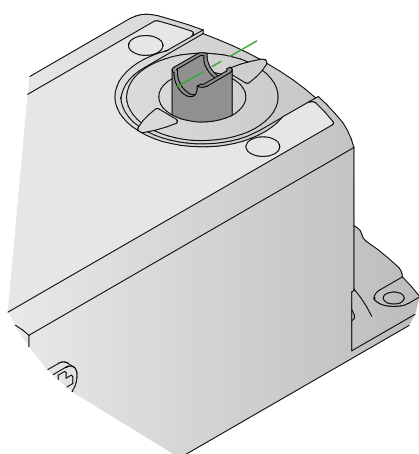

Figure 15. Recess in the damper shaft indicates the position of the damper.
- Note! Positioning of the damper blade and locking strip, see figures 15 and 16.